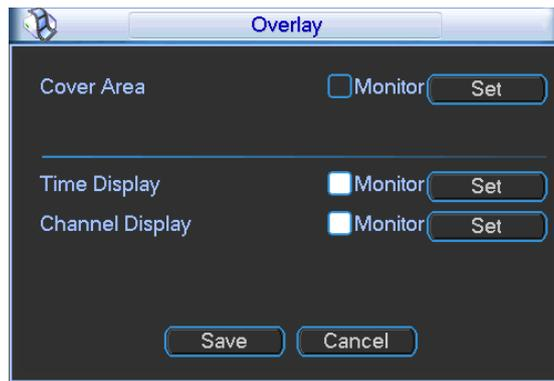

Figure 4-58
- Overlay: Click overlay button, you can see an interface is shown in Figure 4-58.